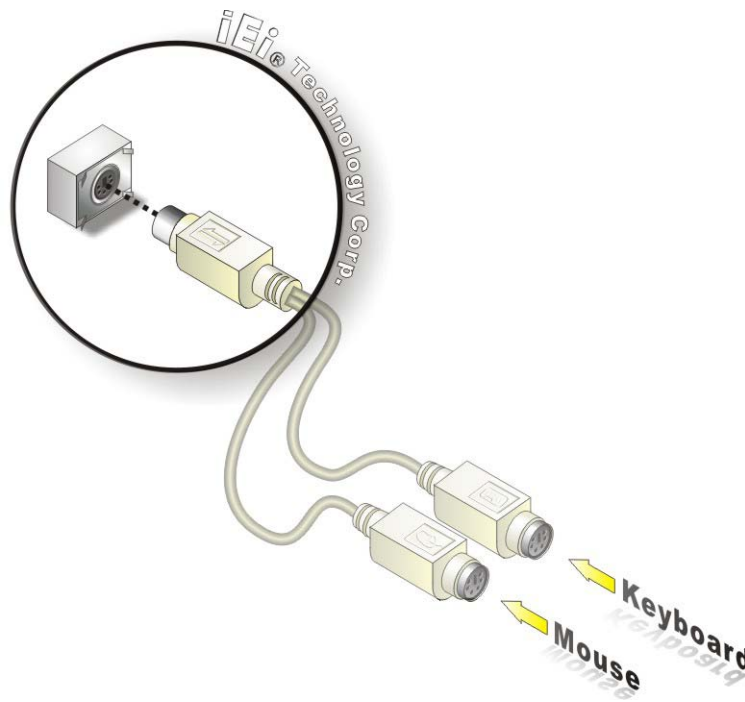

Figure 4-16: PS/2 Keyboard/Mouse Connector
Step 2: Insert the keyboard/mouse connector. Insert the PS/2 connector on the end of the PS/2 y-cable into the external PS/2 connector. See **Figure 4-16**.